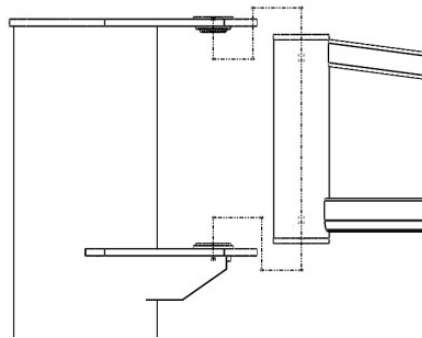

Figure 6-2-2
- b. Place the cantilever parallel into the upper and lower ear plates (Figure 6-2-2).